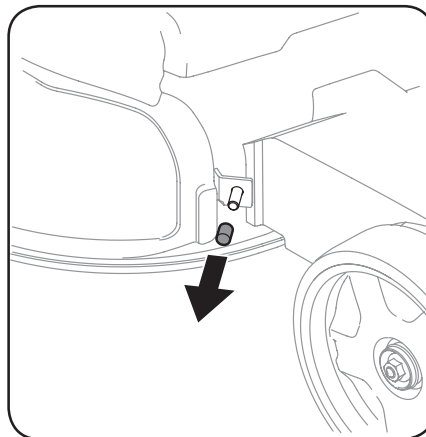

**Figure 2-8**
- d. Pivot the grass catcher down so that it rests over the rear opening of the mower. See Figure 2-8. Let go of discharge door so that it rests against the grass catcher.